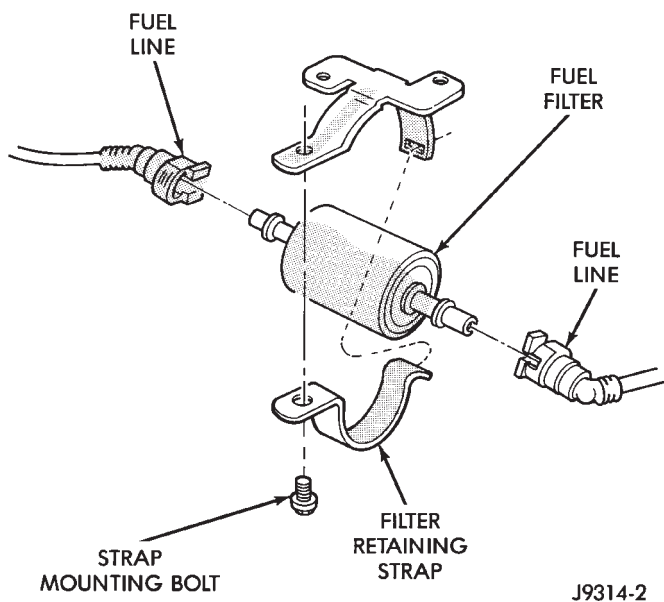

Fig. 17 Fuel Filter
The fuel filter protects the fuel injectors and fuel pressure regulator from dirt, water and other foreign matter. The filter is located under the vehicle near front of fuel tank (Fig. 17). Replace fuel filter at intervals specified in the Lubrication and Maintenance Schedule chart found in Group 0, Lubrication and Maintenance.
- (6) Remove retaining strap mounting bolt (Fig. 17).
- (7) Remove filter retaining strap (Fig. 17).
- (8) Remove filter from mounting bracket.